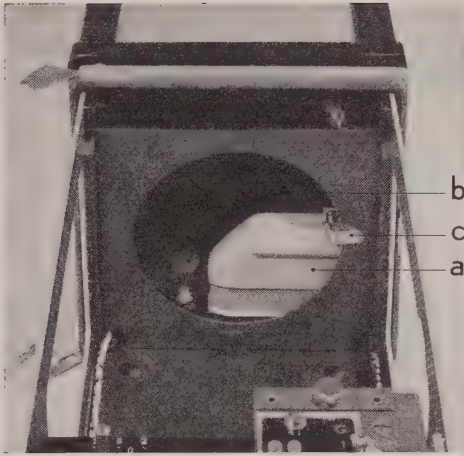

Fig. 6. Apparatus with the frame pulled out, amplifier removed
After the amplifier has been removed from the frame, the frame must be taken out of the case in the following way, see Fig. 6.
1. Insert the female plug (*a*, Fig. 6), of the cable tree in the socket. Make sure that the hook *c* on the plug grips the rim of the round opening.